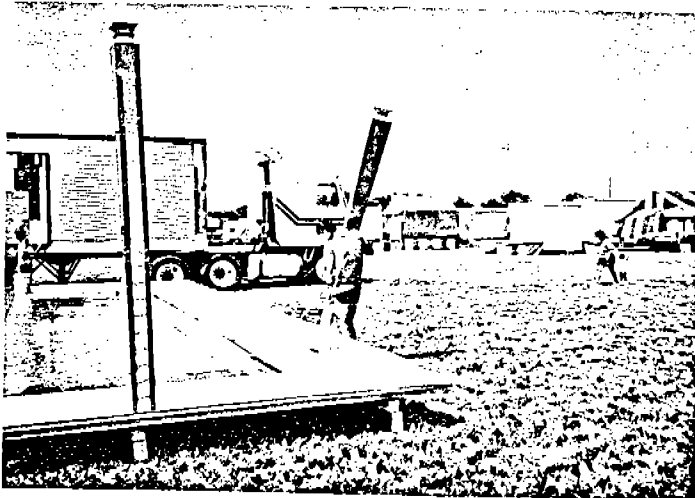

FIGURE 7
- INSTALLING CEILING CORNER AND LINE SUPPORT POSTS:** Place posts A3, A5, and A7 over post support sockets and install pins in bottom of posts. (See Figures 7 and 8). **NOTE:** Removable support sockets